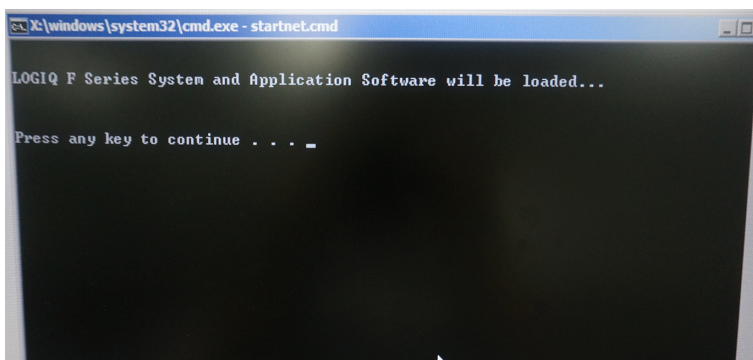

Figure 8-21 Continue Window
- 5.) Press any key to load the system and application software, refer to Figure 8-21 on page 8-10 .